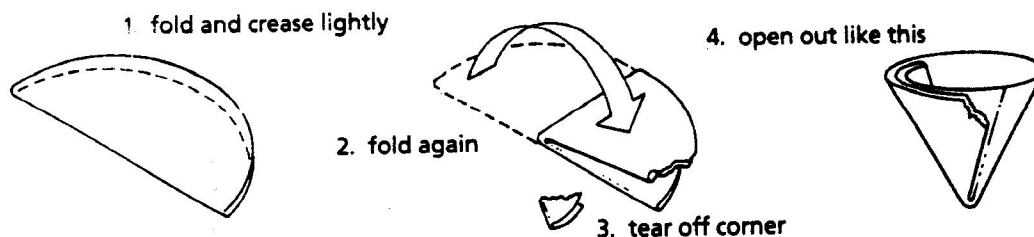

Figure 11 Folding a filter paper.
The paper filter is formed by folding a piece of filter paper as illustrated in Figure 11. Tearing off a corner of the filter paper, as shown in step (3) of the figure, prevents air from leaking down the fold of the filter. Once the filter is formed, place it in the funnel and "tack" it into position by wetting it slightly with distilled water and pressing it against the walls of the funnel until all air bubbles are removed.